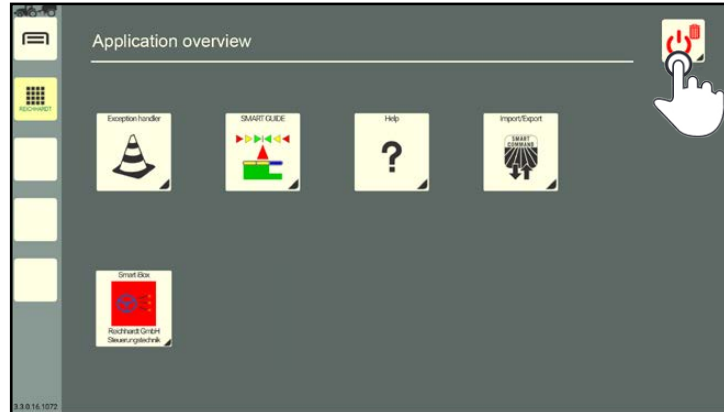

Fig. 98: Tapping the Delete/Exit button
2. Tap the Delete/Exit button (see Fig. 98).